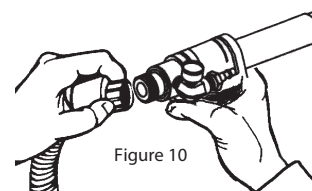

Figure 10
4. Firmly tighten hose connector by hand (Figure 10).